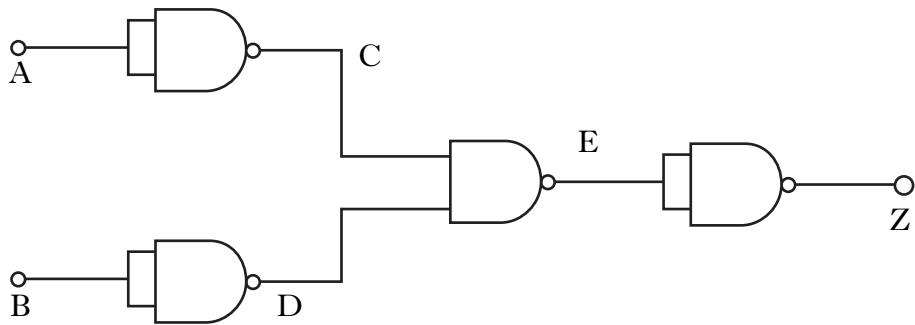

Figure Q7
7. Figure Q7 shows a logic circuit for a digital electronic system.
- (a) Complete the truth table below for the logic circuit given in Figure Q7.
- (c) State the single logic gate that could be used to replace the four NAND gates in Figure Q7.